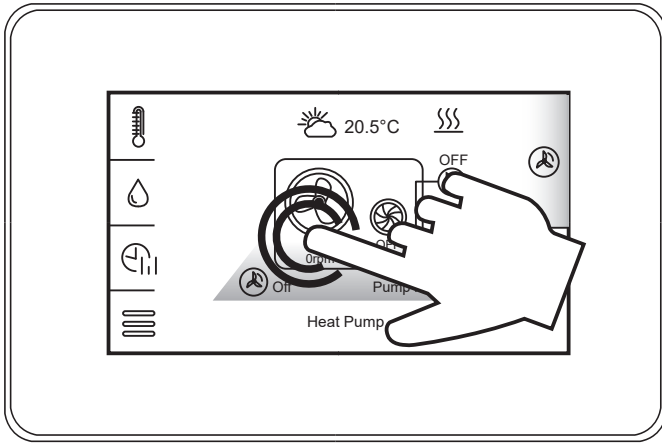

Figure 6-2: Access heat pump
1. Tap the heat pump diagram from the Heat pump status screen. Refer to Figure 6-2.